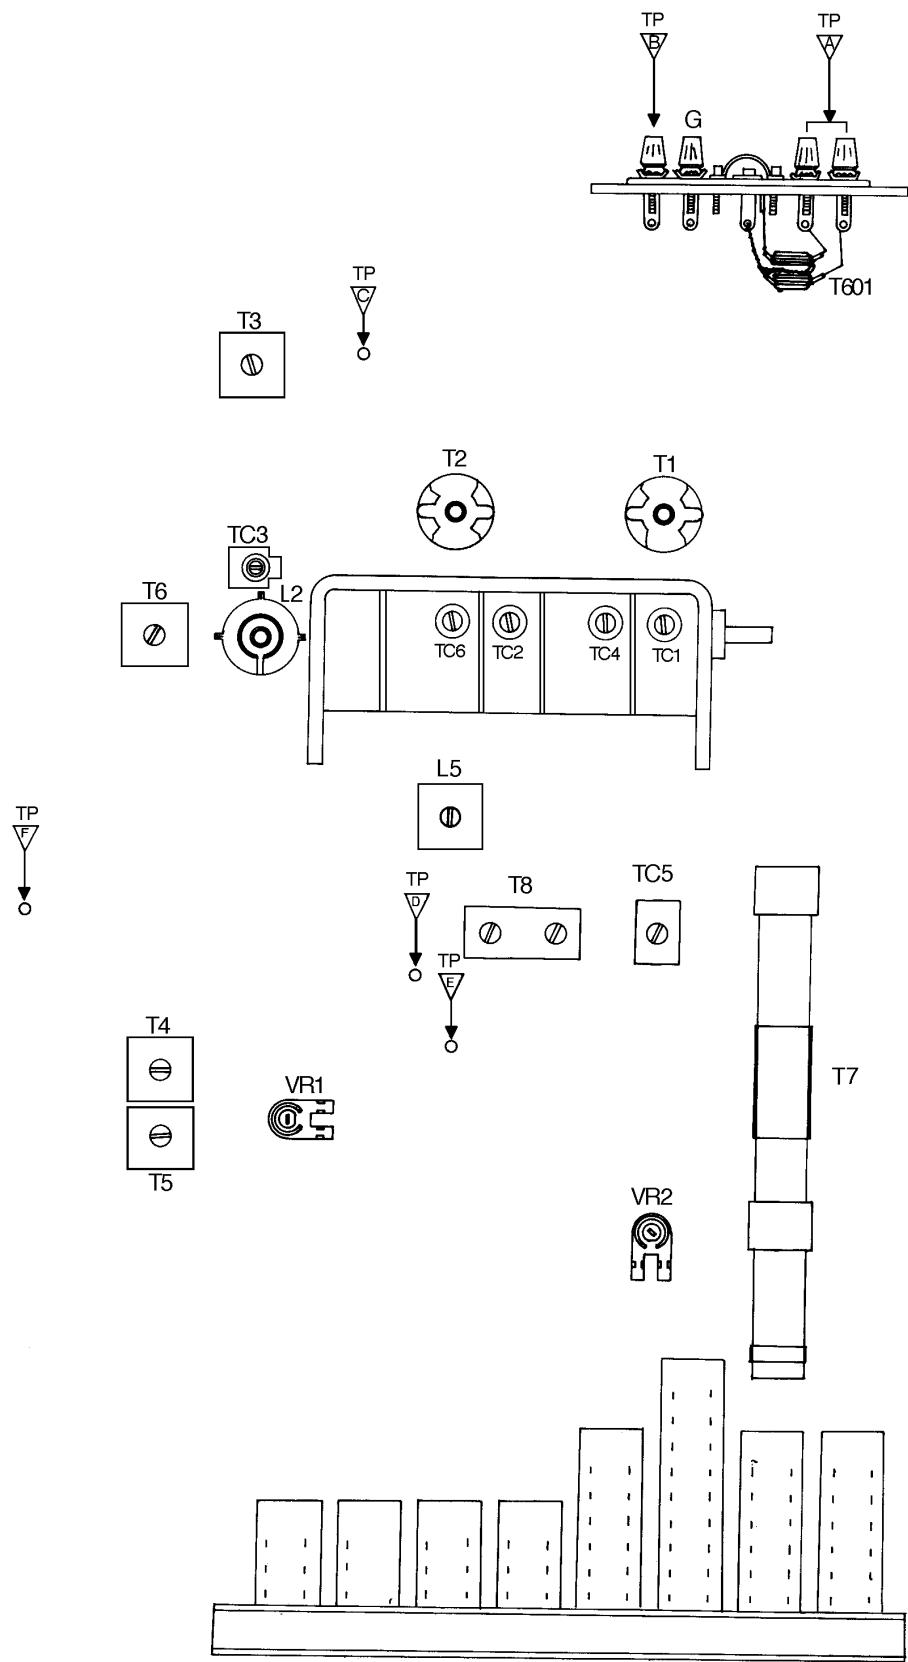

Figure 2. AM/FM Adjustment Location
1.3 Refer to the adjustment location chart (Figure 2.) for the location of the tuning coils called out in the AM alignment procedure.
2.3 Refer to the adjustment location chart (Figure 2.) for the location of the tuning coils called out in the FM/MPX alignment procedure.